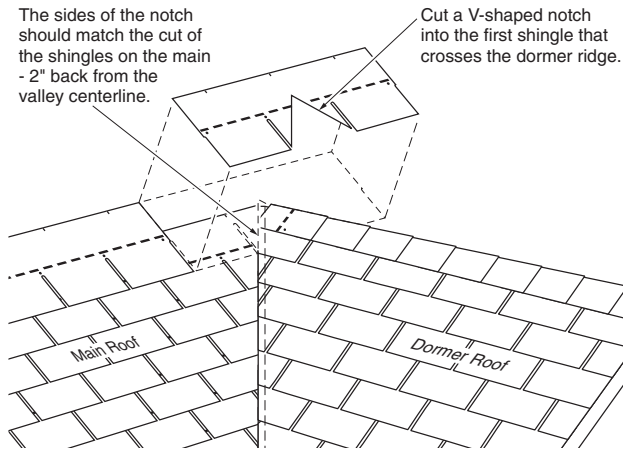

Figure 9-9: The V-notched shingle being fitted over the dormer ridge.
- Cut into the first shingle that crosses above the ridge of the dormer a V-shaped notch that fits over the ridge of the dormer. The sides of the notch should match the cut of the shingles on the field of the roof that were cut back at the valley centerline. Cut this notch into the headlap area of the shingle. Shingles on the right side of the dormer should be applied so that course pattern and horizontal alignment conform to the position of the V-notched shingle (*Figure 9-9*).